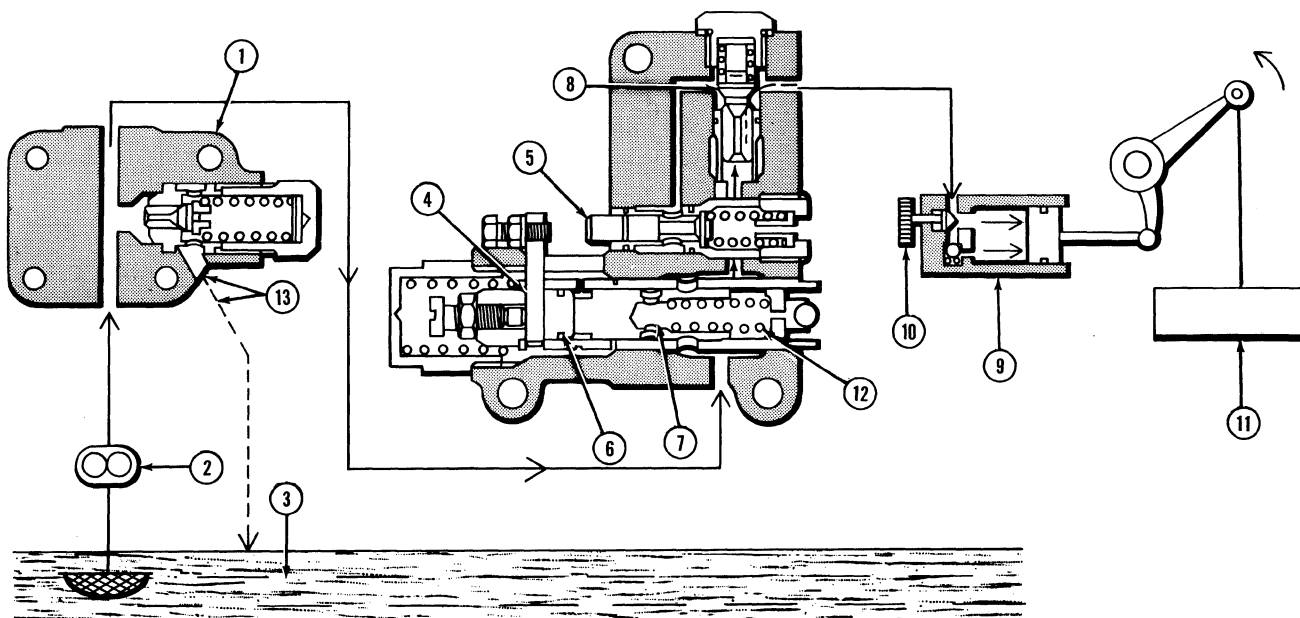

Figure 23
Lifting Position (Figure 23)
When the control lever (4) is moved to the lift position, the spool (7) moves to the position shown in Figure 23. Oil passes through the relief valve (1) and acts on the pilot spool (7) and check valve (8). Concurrently, the pilot spool is forced to close by the pilot spool spring
(12). Since the spring pressure has more force than the oil pressure opposing the pilot spool, oil flows to the cylinder to lift the implement. When oil pressure in the system exceeds, 130 kg/cm² (1849 psi) on the 1100 Tractor or 150 kg/cm² (2133 psi) on the 1300-1900 Tractors, the relief valve (13) opens and oil is returned to the sump.